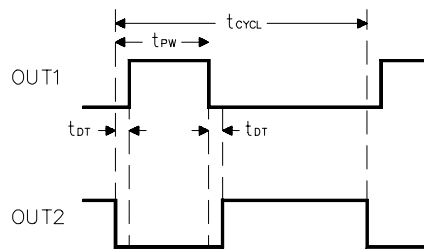
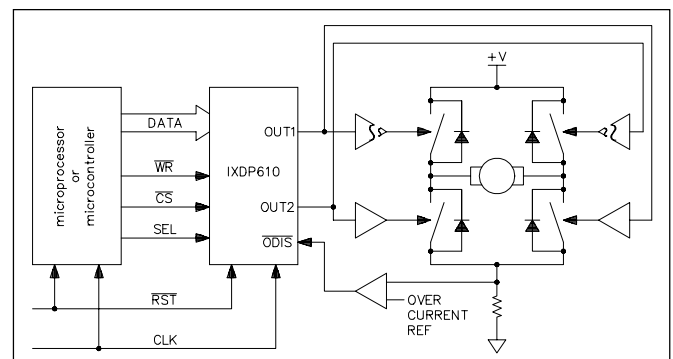

Fig. 2 PWM Cycle Time and Dead-Time Definition
Fig. 3 IXDP610 to DC Servo Motor Full Bridge Block Diagram
Because the IXDP610 is a digital IC, and is programmable, it is possible to tailor the dead-time period (defined as  $t_{DT}$  in Fig. 2). IXDP610's programmable dead-time feature is difficult to duplicate in the equivalent analog system. The control of a switching bridge usually involves a process of alternating the "on-time" of two power switches connected in series between a high-voltage and a low-voltage. For example, the H-bridge of Fig. 3 can be operated by turning the upper left and lower right transistors on and leaving the two remaining transistors off, during the first half of the PWM cycle. In the second half of the cycle, the upper right and lower left transistors are on and
**Dead-time counter bits** - these three bits determine the dead-time period, as defined by Fig. 2. Dead-time is that period of time when both OUT1 and OUT2 are low. Any binary number from 000 through 111 is valid. Thus, eight different dead-time periods can be programmed. DT0 is the least significant bit and DT2 is the most significant bit. A 000 binary means no dead-time and a 111 means maximum dead-time. Each dead-time count corresponds to two CLOCK periods. For instance, if a binary three (3) is programmed into the dead-time bits, the dead-time will be six external CLOCK cycles long.
In a typical PWM cycle (refer to Fig. 2) two dead-time periods will occur. One follows the turnoff of OUT2. The dead-time counter is triggered by an output turning off. During a dead-time period, both outputs are guaranteed to be off (no dead-time periods occur during 0 % and 100 % duty-cycle states). The dead-
time period overlaps the ontime of an output, therefore, it shortens the on-time without affecting the base PWM cycle time. A dead-time period is only inserted if an output changes from high to low (on to off). Thus, if a PWM duty cycle is chosen such that an output would be on for a period of time equal to or less than one dead-time period, the switch associated with that output will not be turned on during the PWM cycle. In this special case, one will observe only dead-time period per PWM cycle time, rather than the two dead-time periods shown in Fig. 2.
The Pulse Width number that is written to the Pulse Width latch represents the high time of OUT1 (the low time of OUT2). The Dead-time Counter decreases the on-time (output high) of an output by one dead-time period ( $t_{DT}$ ). See Fig. 2 and the description of the dead-time bits in the Control latch to determine the duration of one dead-time period.
"PWM cycle time" is  $t_{\text{CYCLE}}$  in Fig. 2.